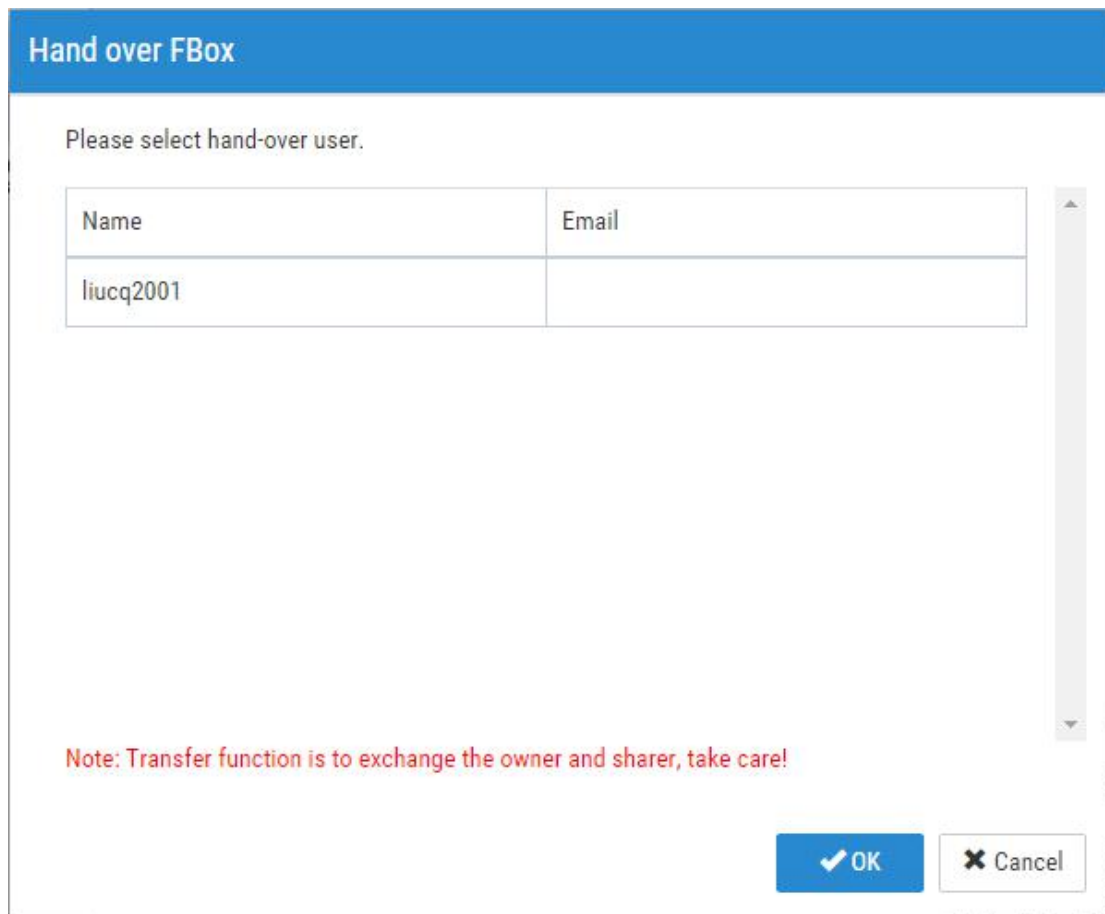

Fig. 4.5-19 The "Hand over FBox" dialog
(2) After selecting the "Hand over FBox" option, the "Hand over FBox" dialog will pop up, as shown in Fig. 4.5-19. Select the user to hand over in the list of the dialog, and click the "OK" button. Then you will finish the operation of exchanging the identities between the current owner and the selected user for the FBox device.